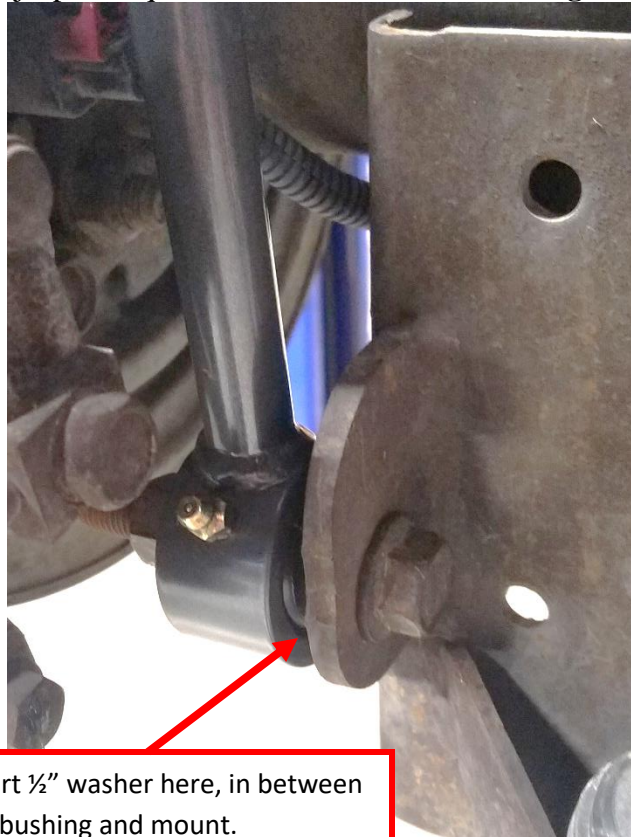

Figure 2. Correctly Installed Axle Side Sway Bar End Link
4. Bolt the axle side of the links to the axle brackets. Install one of the included ½” washers between the sway bar link bushing and the mount on each side of the vehicle. It may be necessary to raise or lower the axle on one side in order to get the hardware to line up. Make sure the zerk fitting is facing toward the rear of the jeep. Torque lower bolt to 75 lb-ft. See **Figure 2**.